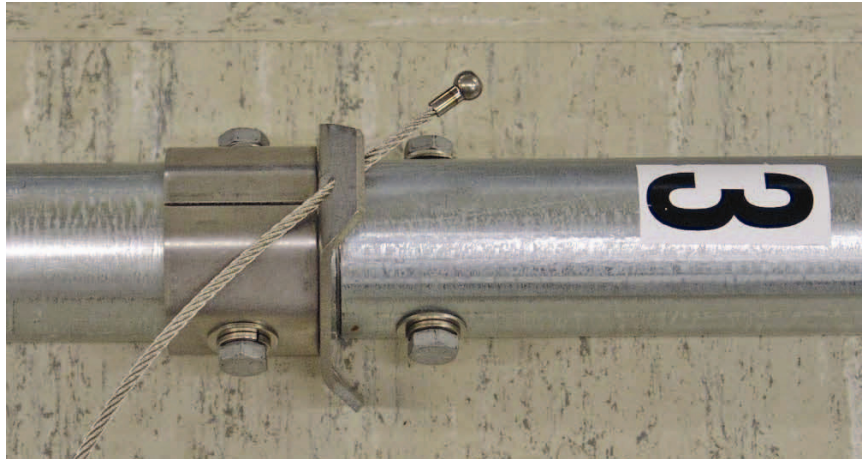

FIGURE 2.2-11. Mast Section 3 and Guy Ring/Collar Assembly
Step 10: Slide coupler into Section 2 mast and assemble collars, as shown in Figure 2.2-11.